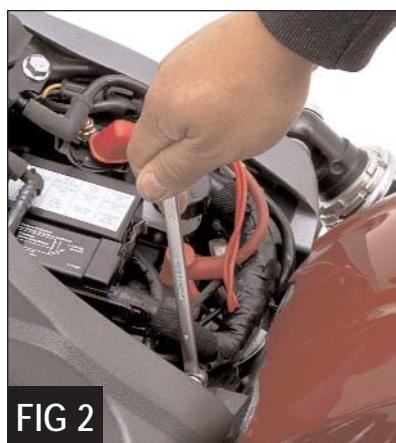

FIG 6
7. Secure the other position on the seat mounting bracket with the provided spacer and m8 Allen bolt (*Figure 6*).